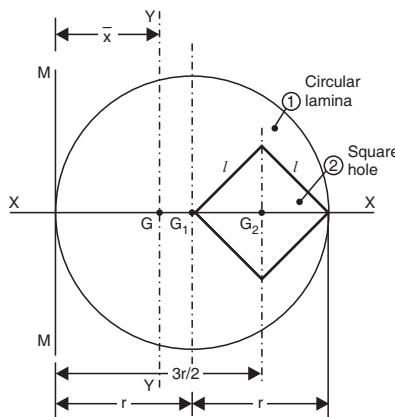

Fig. 7.30
**Sol.** Refer to Fig. 7.30. Since, the remaining body is symmetrical about  $X$ -axis, therefore,  $\bar{y} = 0$ .